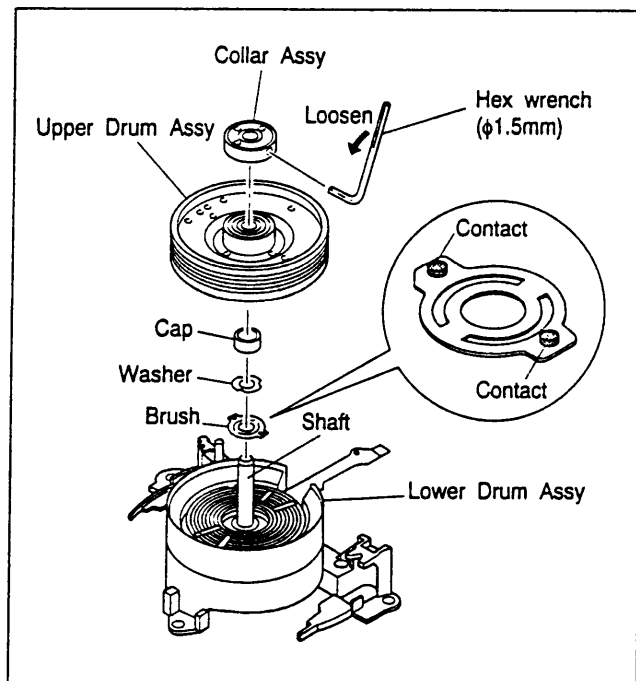

Fig. 2-5-25
- (1) Use an air brush to clean the lower drum assy and the coil section of the new upper drum assy.
- (2) Set a new washer on the drum shaft as indicated in Fig.2-5-25.
- (3) Note the top and bottom of the collar assy and determine the position as indicated in Fig.2-5-25.